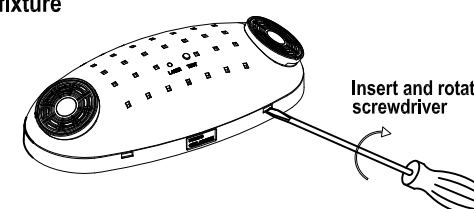

Fig 1
1. Insert a flat blade screwdriver into the two slots and pry the front cover from the back plate(see Fig 1).
1. Insert a flat blade screwdriver into the two slots and pry to remove front cover from back plate (see Fig 1).